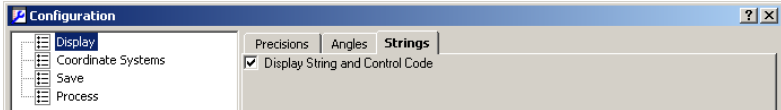

Figure 4-73. Configuration – Strings Tab
2. On the **Configuration** dialog box, click *Display* and then the *Strings* tab (Figure 4-73).